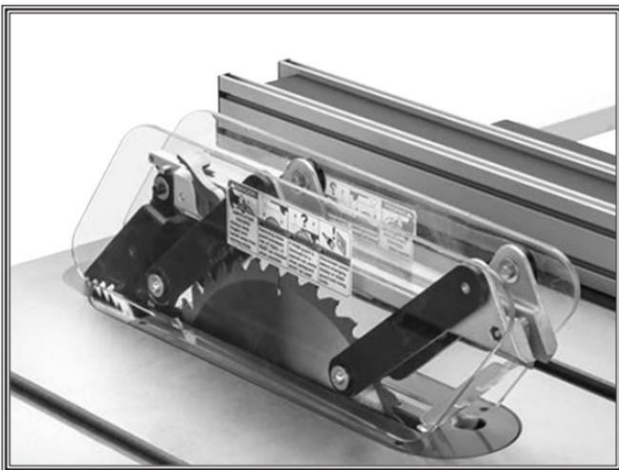

Figure 37: Blade guard fully installed.
- When properly installed, the blade guard should look like figure 37. Its movement up and down should be unrestricted, and it should pivot easily and high enough to accommodate the thickness of the workpiece.